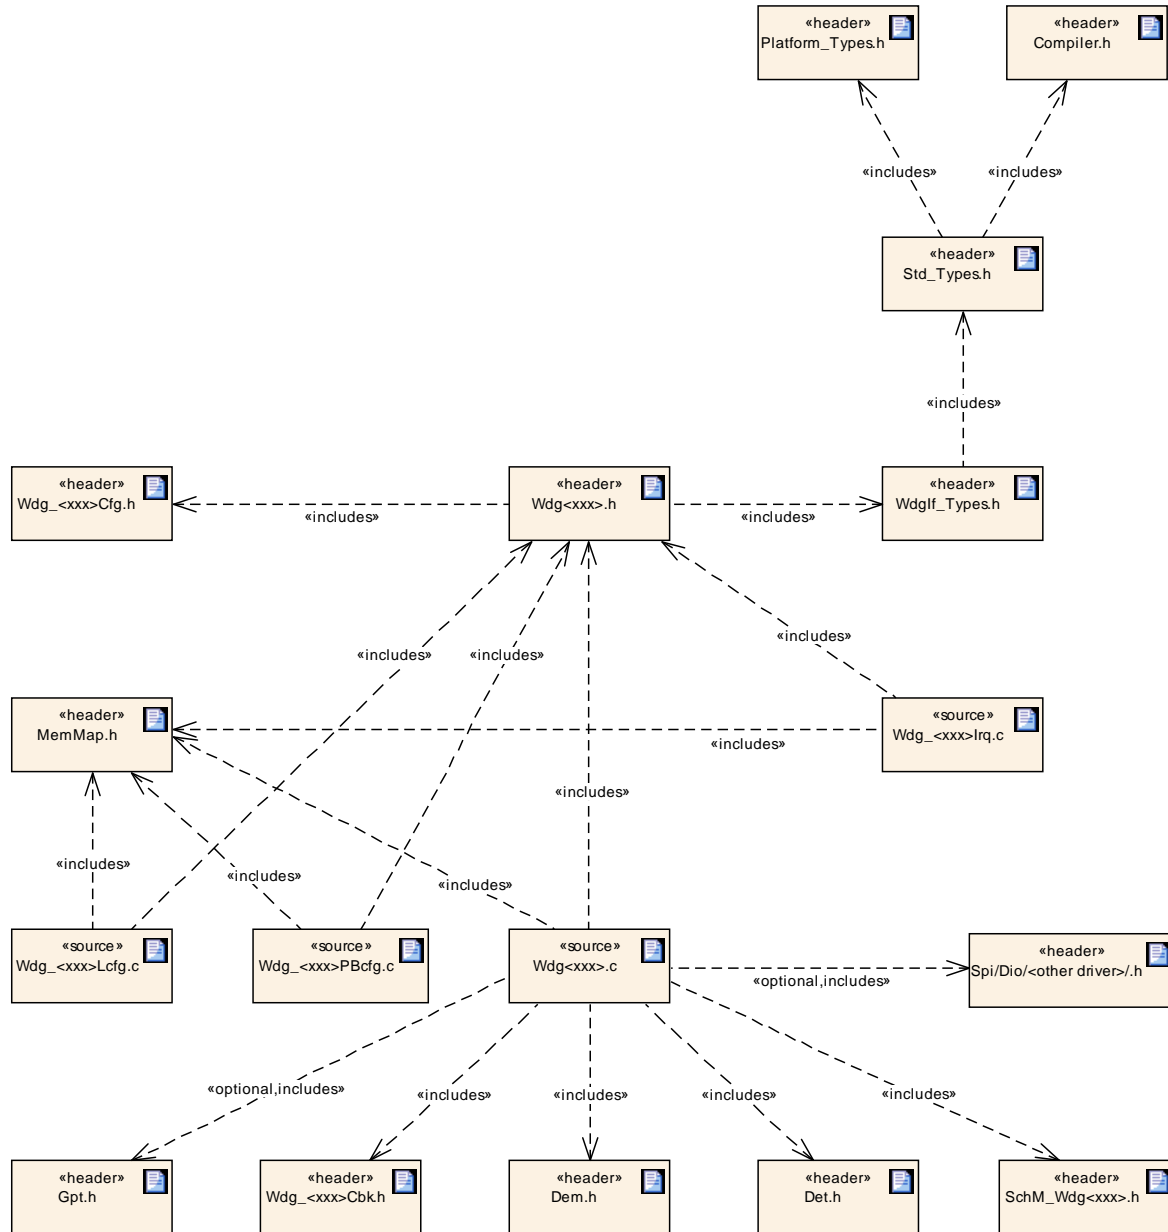

Figure 1: File include structure
- The possible name expansion for multiple driver modules are indicated as <xxx> in Figure 1.